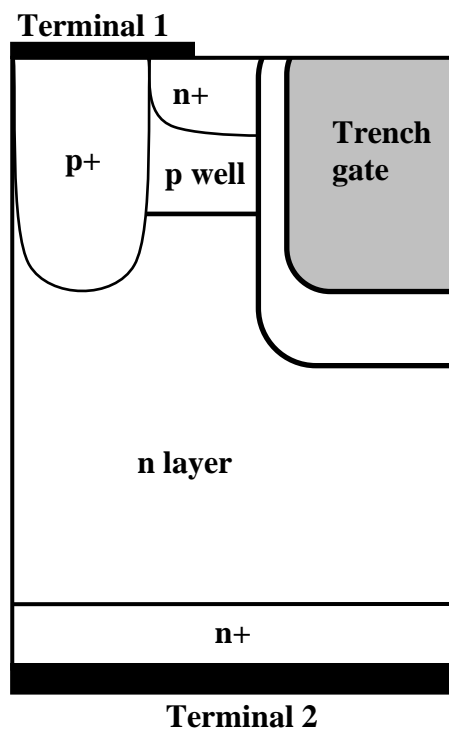

Fig. 2
2 The cell structure in Fig. 2 represents a vertical Silicon Carbide power device. The oxide at the bottom of the trench gate is thicker than that on its side walls.
- (d) Modify the device shown in Fig. 2 to operate as a p-type channel Power MOSFET. What are the challenges, the benefits and the drawbacks of making and using a p-type channel Power MOSFET in Silicon Carbide? [25%]